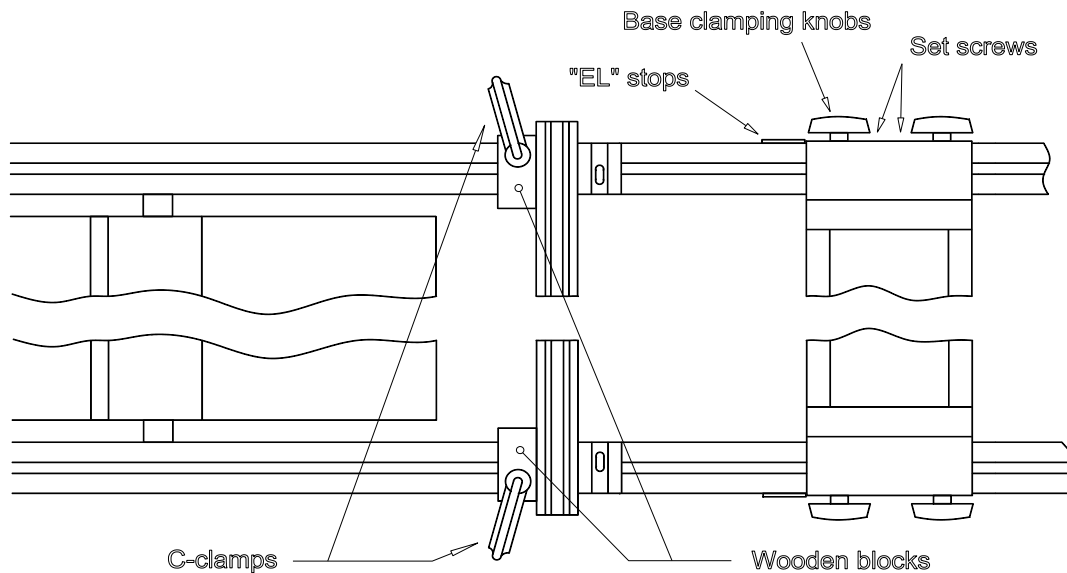

Fig. 1- Scrap wood blocks clamped to rails
4. Clamp blocks of scrap wood onto the infeed and outfeed main rails so they rest *gently* against the face of the fence. (Fig. 1)